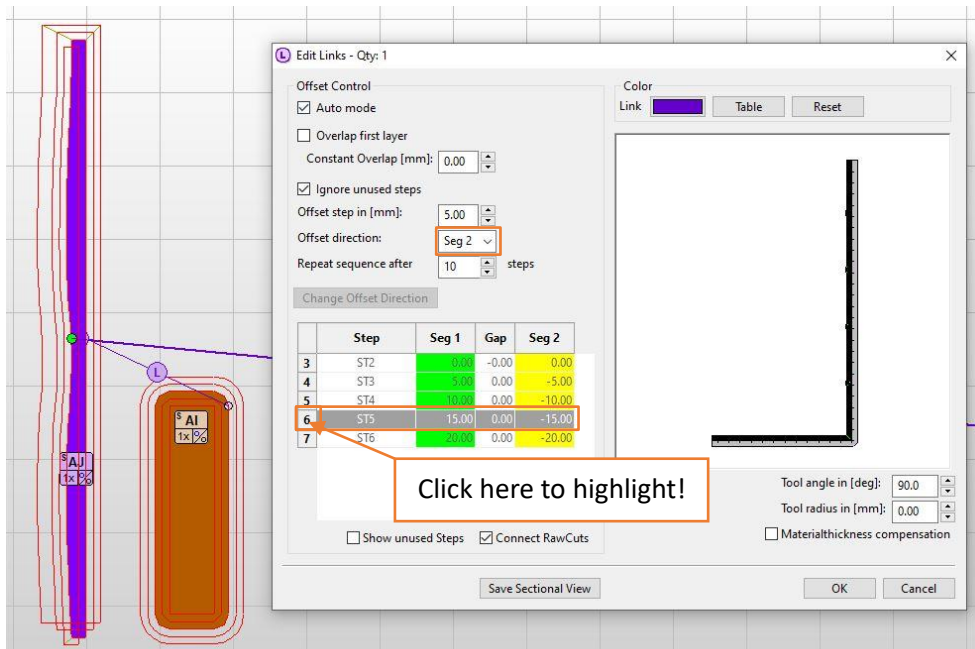

Figure 319
113. As the warning states the problem occurred at position 6 (Figure 319). Now we have following options to avoid that our RawCut of position 6/ST5 disappears completely.
- Thus, it is suggested to change the **[Offset direction]** from 'both' to 'Seg2' instead. By clicking on the position 6 label (Figure 319) the cuts generate at this step are highlighted. Nevertheless, we will recognize that there is still no cut appearing now, thus we also need to modify the link of the second segment on the left as well.